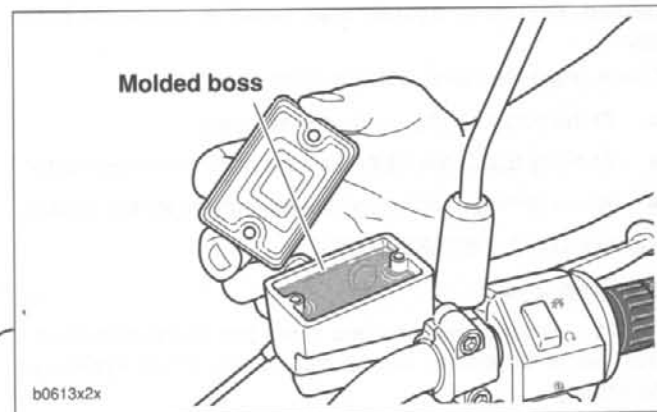

Figure 1-29. Checking Brake Fluid (Switch shown uncovered for clarity)
- c. Remove cap and gasket from rear master cylinder reservoir. Bring fluid level to between upper and lower marks on reservoir. See Figure 1-29.